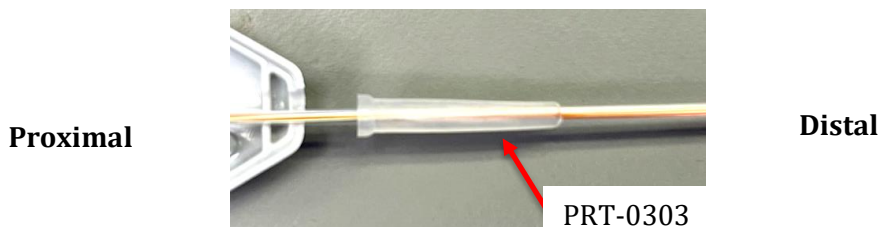

Figure 11: Placement orientation of strain relief on catheter outer lumen shaft
7.10.6 Insert the strain relief (PRT-0303) over the catheter outer lumen in the orientation illustrated in Figure 11.